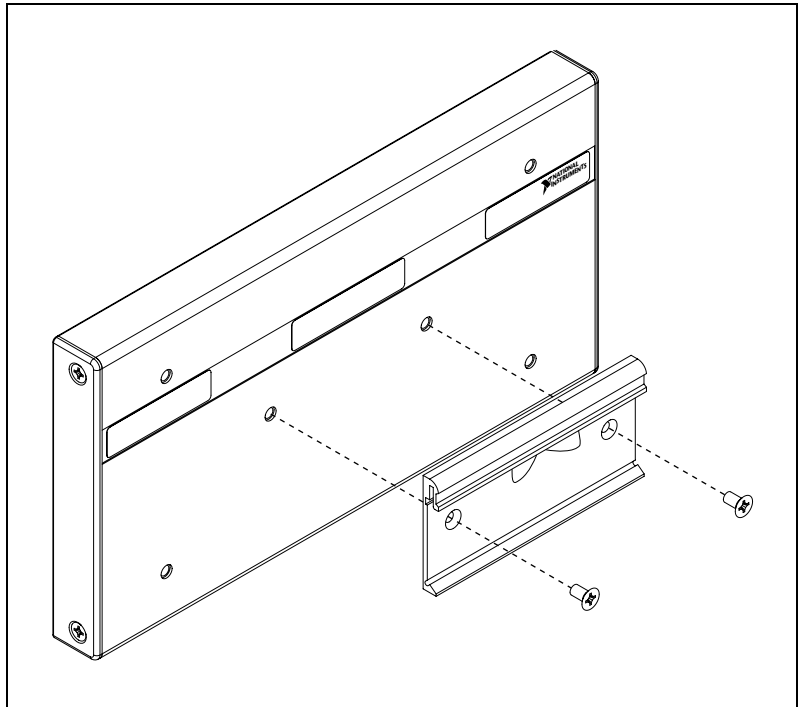

Figure 2-11. Fastening the DIN Rail Clip to the cFP-BP-4 Backplane
1. Fasten the DIN rail clip to the cFP-BP-4 using a number 2 Phillips screwdriver and the 8-32 $\times$ 5/16 in. countersink screws shipped with the DIN rail clip(s). These screws have a nylon coating to prevent them from loosening. Refer to Figure 2-11.